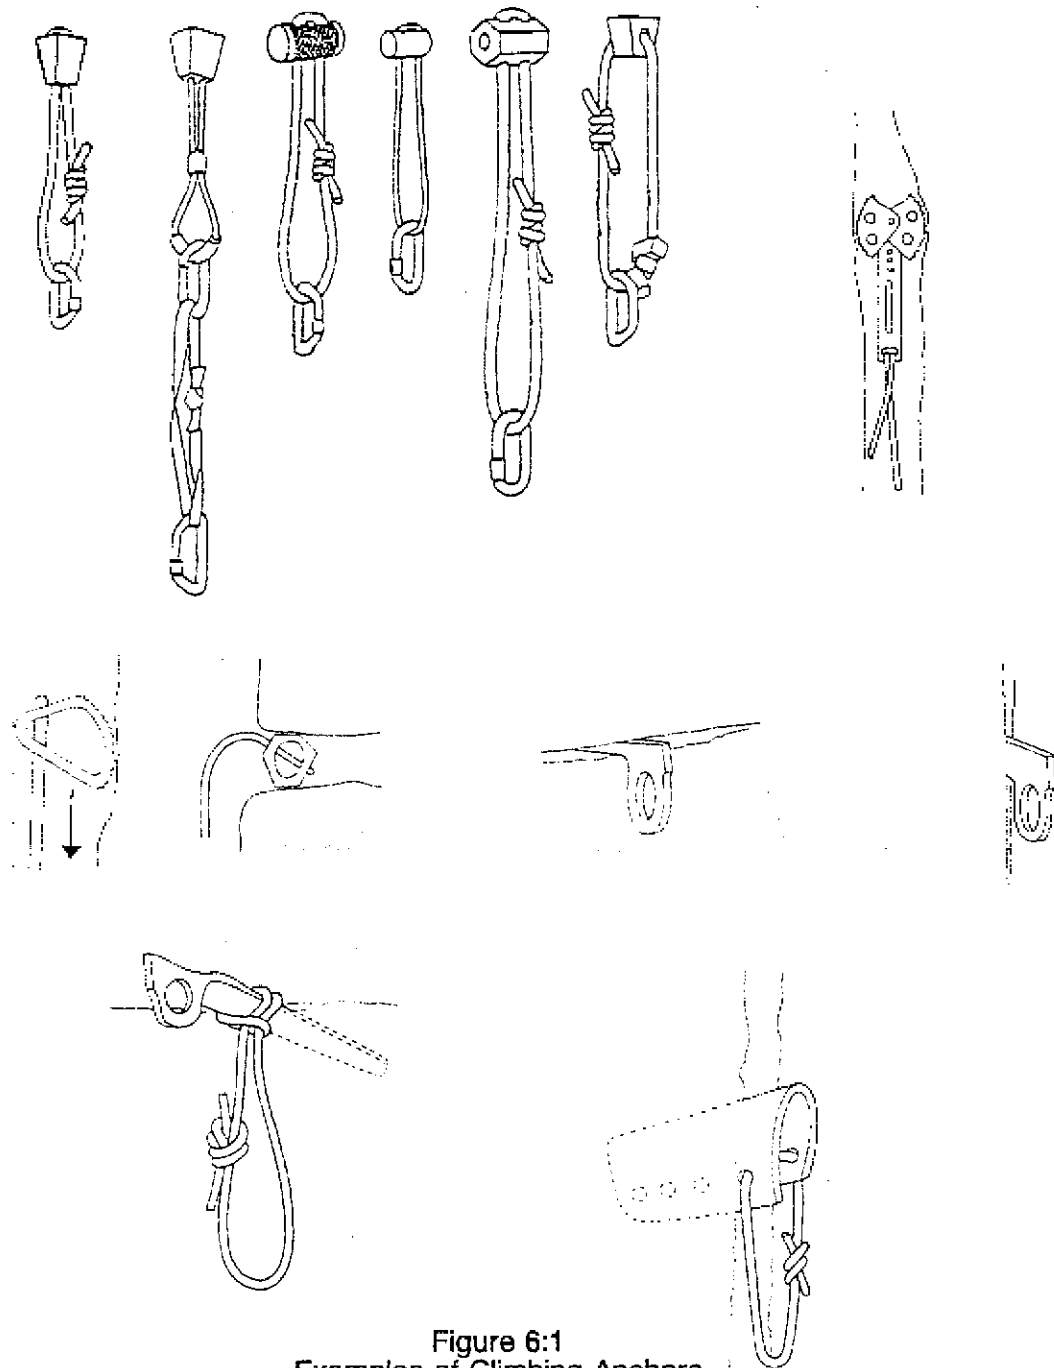

Figure 6:1
- (1) The vehicle should be placed at right angles to the direction of load wherever possible.
- (2) The vehicle must not be required to be moved until the rescue is completed.
- (3) The vehicle must be immovable. The parking brake should be set, and the vehicle should be in a low gear. Preferably, the wheels should be chocked and the keys removed and handed to the team leader.
- (4) The attachment should be made to the strongest part of the vehicle that is accessible. Chassis members and towing frames or hooks are all suitable.
- (5) Software must be kept clear of areas of contamination, abrasion and heat.
- c. **Pitons, Bolts, Hexcentrics and Friends** - These and other personal climbing protection may be used in the absence of other anchors (Figure 6:1). The safe placement of climbing protection requires extensive training and experience which is beyond the scope of this manual. **Appropriate training must be sought from climbing/caving instructors.**